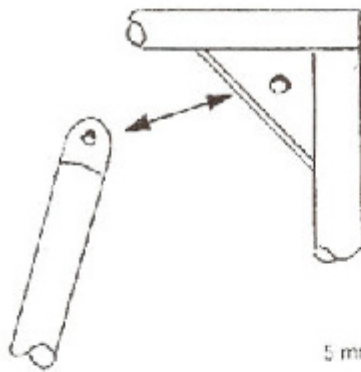

Fig 3.
- c. A tongue and gusset connection (Fig. 3). In this case, the tongue and gusset will be made from minimum 6mm (1/4") plate.